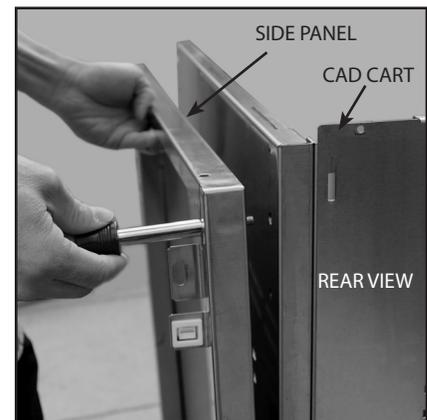

Fig. 12
3. With the grill head out of the cart, place the corresponding wrapper side panel against cart side. Align the holes at the top front and rear side corners and install hex bolts (1/4-20 X 1/2 HEX BLT SS) and locking nuts (1/4-20 KEPS NUT SS) provided with hardware kit, using the second hole from the top on the cart panel and top hole on the wrapper panel (Fig. 12). Do not tighten at this point.